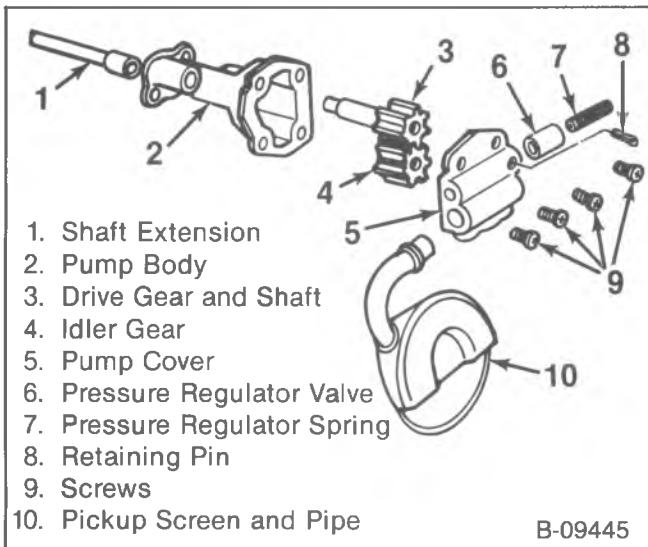

Figure 17—Oil Pump Components
↔ Remove or Disconnect (Figure 17)
**Inspect (Figure 17)**
- Pump body (2) and cover (5) for cracks or other damage.
- Drive gear and shaft (3) for lack of fit in the pump body (2).
- Inside of the cover (5) for wear that would permit oil to leak past the ends of the gears. The pump gears, cover, and body are not serviced separately. If the parts are damaged or worn, replace the entire oil pump assembly.
- Pick-up screen and pipe (10) for damage to the screen, pipe or relief grommet.
- Pressure relief valve (6) for fit. The regulator valve should slide freely in its bore without sticking or binding.
**Install or Connect (Figure 17)****Tool Required:**